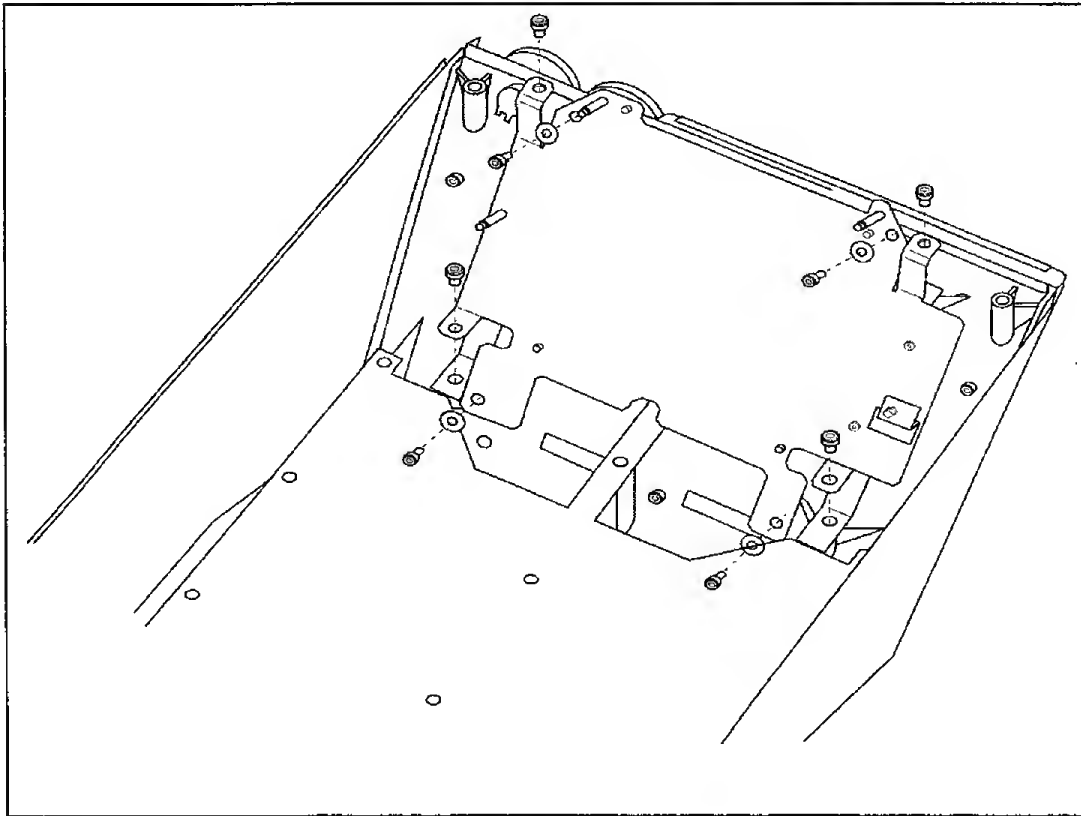

Figure 7-7: GUI Bulkhead
(Refer to Figure 7-7)
4. Install the front bulkhead using 4 screws (see Figure 7-7). Make sure the strips from the EMI foil are between the bulkhead and the Top Enclosure.
5. Install the remaining four screws and washers (see Figure 7-7). Make sure the intensity and volume knobs can turn freely. Readjust if necessary. Do not overtighten screws.